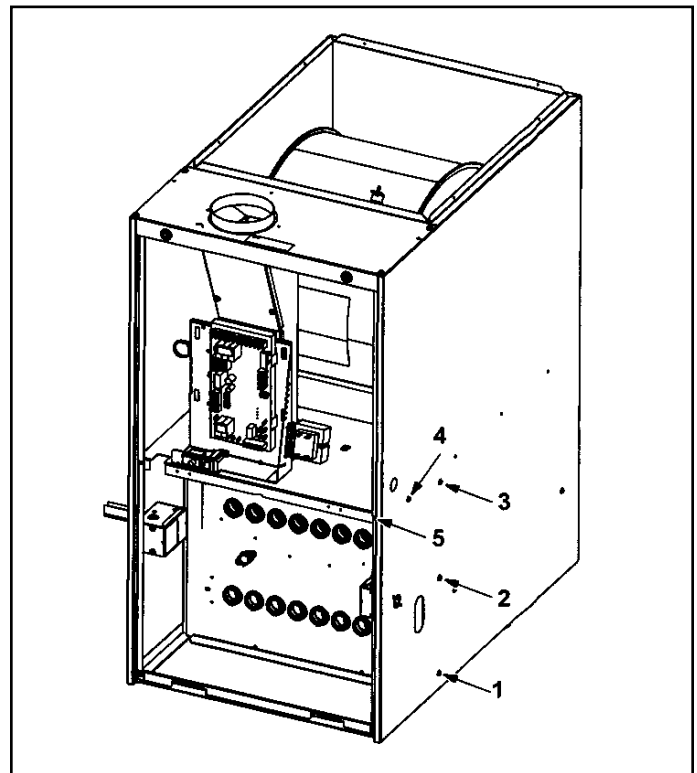

Figure 30. Remove 5 Screws if Necessary (either side of cabinet)
10. Remove heat exchanger. It may be necessary to spread cabinet side to allow more room. If so, remove five screws from the left side or right side of cabinet. See Figure 30.